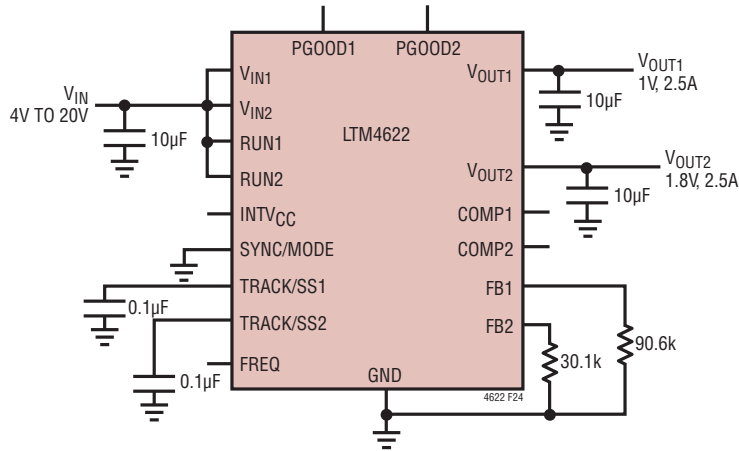

Figure 24. 4VIN to 20VIN, 1V and 1.8V Output at 2.5A Design
**Table 7. Output Voltage Response for Each Regulator Channel vs Component Matrix (Refer to Figure 24)**